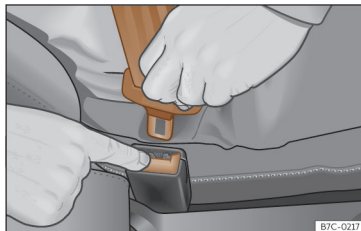

Fig. 10 Release the seat belt's buckle.
- Press the red button on the buckle »» Fig. 10. The latch plate is released from the buckle.